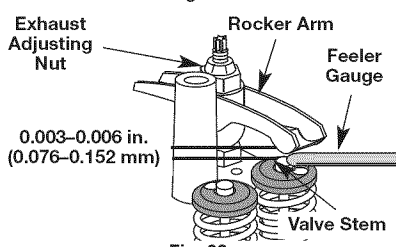

Fig. 33
7. Slide the feeler gauge between the rocker arm and the valve return spring. Measure the clearance between the valve stem and rocker arm (Fig. 33). Measure both the intake and exhaust valves.
a. Turn the adjusting nut using a 5/16 inch (8 mm) wrench or nut driver (Fig. 33).